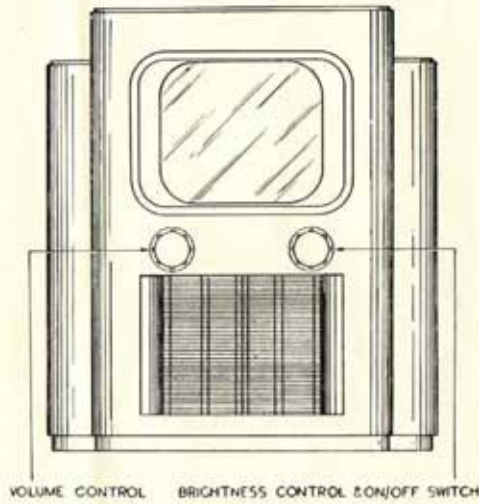

Fig. 3
| (1) BRIGHTNESS CONTROL AND ON-OFF SWITCH | (see Fig. 3) | } Major controls for regular use. |
| (2) VOLUME CONTROL | (see Fig. 3) | |
- (6) Switch on the mains to the instrument by turning the Brightness Control (see Fig. 3) in a clockwise direction. This control need not at first be turned to the fully clockwise position, but need simply be rotated to that position where the switch spring operates and switches on the mains to the receiver. Wait approximately one minute to allow the valves and Cathode Ray tube to heat up, then turn the Brightness Control in a clockwise direction until a faint illumination appears on the screen. Re-adjust the control until the illumination just disappears.
- (7) Adjust the Vision Sensitivity Control until a picture contrast is obtained with good gradations of light and shade. Slight re-adjustment of the Brightness Control may be necessary.
- (8) Adjust the Sound Sensitivity Control to a point at which the sound output just becomes distorted. The sound output can now be set to the required level by means of the Volume Control.